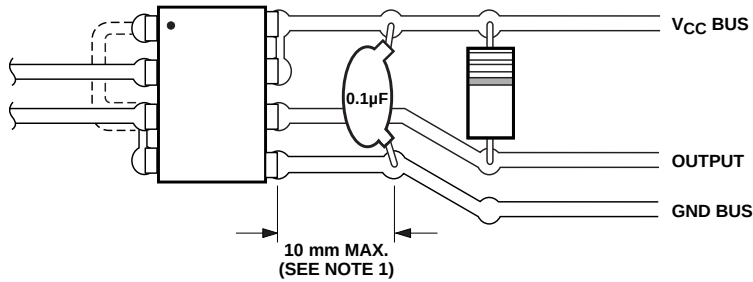

Figure 15. Recommended printed circuit board layout.
1. Bypassing of the power supply line is required with a $0.1 \mu\text{F}$ ceramic disc capacitor adjacent to each optocoupler, as illustrated in Figure 15. Total lead length between both ends of the capacitor and the isolator pins should not exceed 10 mm.
assumes that good board layout procedures were followed to reduce the effective input/output capacitance as shown in Figure 15.